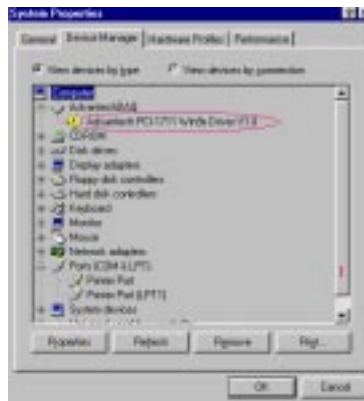

Fig. 2-4 The “exclamation mark” (!) on the device name indicating improper installation of the card
- ⚡ If your card is properly installed, you should see the *device name* of your card listed on the *Device Manager* tab. **If you do see your device name listed on it but marked with an exclamation sign “!” (Fig. 2-4), it means your card has not been correctly installed.** In this case, remove the card device from the *Device Manager* by selecting its device name and press the **Remove** button. Then go through the driver installation process again.